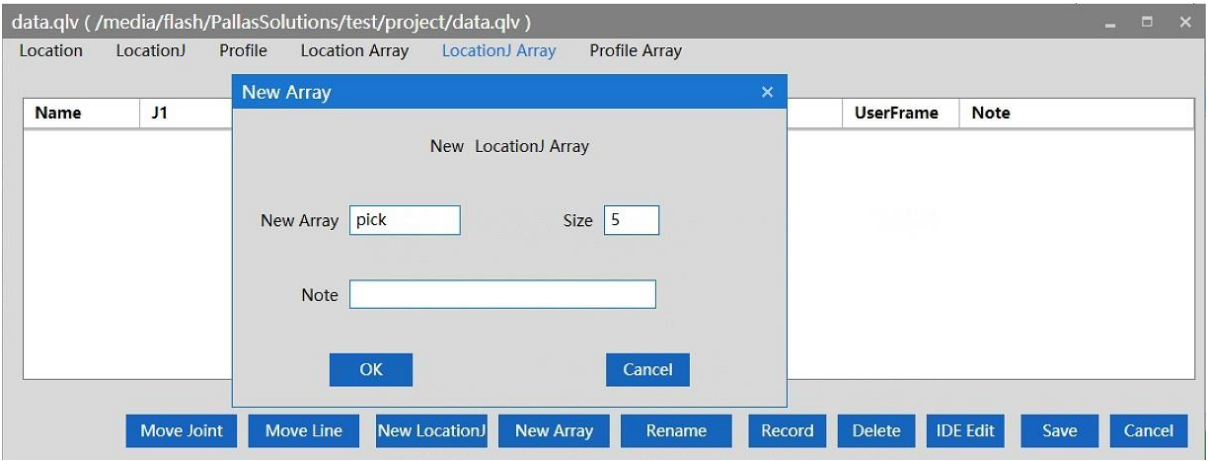

Figure 6-38 New LocationJ Array
**Step 5** New LocationJ Array; Click "New Array" in "LocationJ Array", and the "New Array" interface will pop up. Enter the array name and array length, and click "OK", as shown in Figure 6-38.